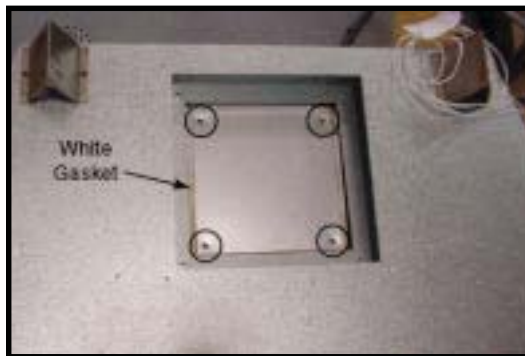

Figure 17 - Place Outer Cover Plate on Top of Appliance
13. Place the outer cover plate and white gasket (removed in Step 7) on the appliance top and replace the four screws to hold the outer cover plate in place. See Figure 17.